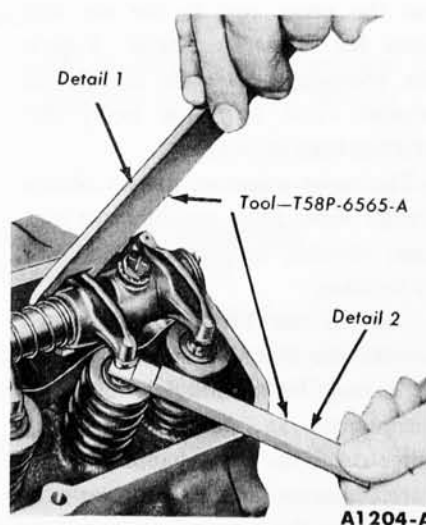

FIG. 14—Valve Clearance
2. Position the hydraulic lifter compressor tool on the rocker arm and slowly apply pressure to bleed down the hydraulic lifter until the plunger is completely bottomed (Fig. 14). Hold the lifter in the fully collapsed position.
Upon replacement of a valve push rod and/or valve rocker arm shaft assembly, the engine should not be cranked or rotated until the hydraulic lifters have had an opportunity to leak down to their normal operating position. The leak-down rate can be accelerated by using the tool shown in Fig. 14 on the valve rocker arm and applying pressure in a direction to collapse the lifter.